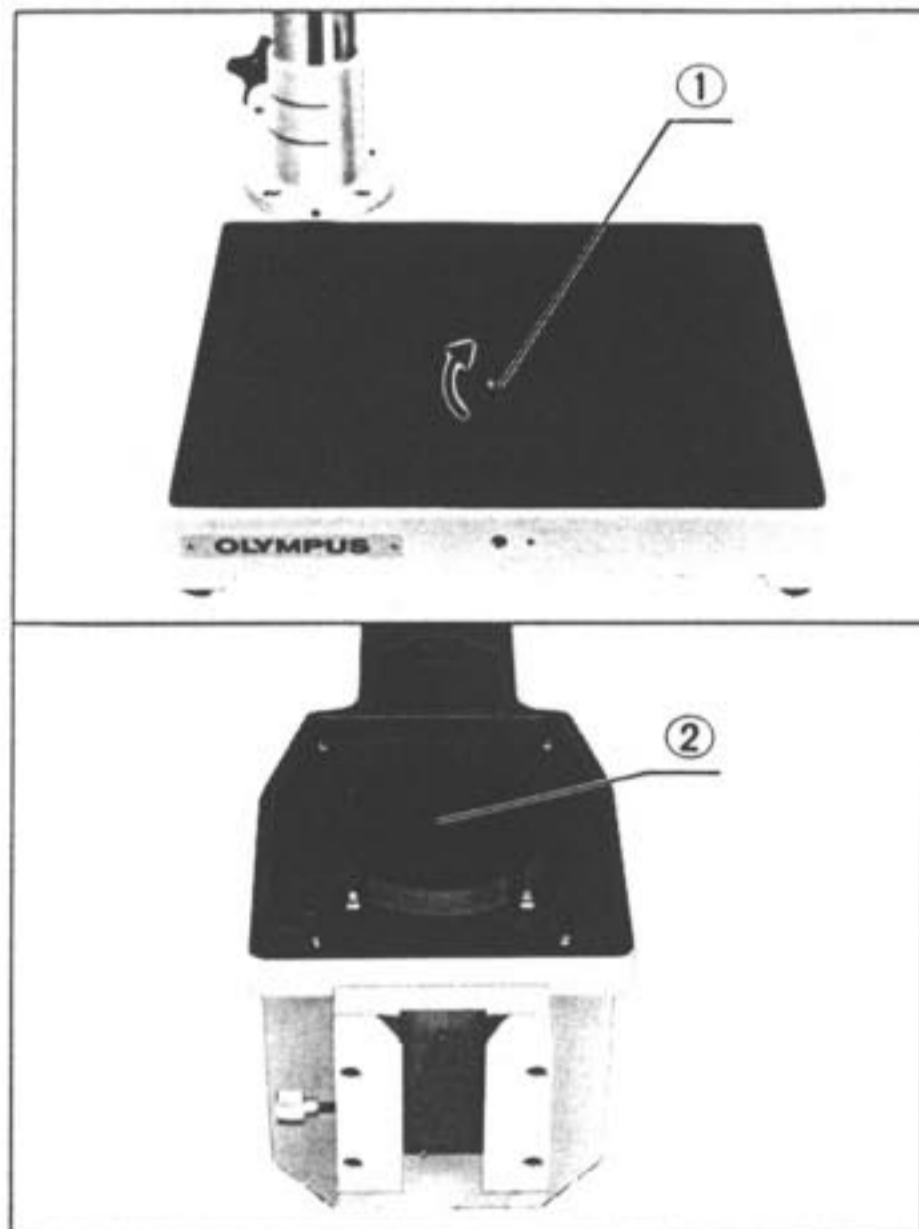

Fig. 6
Loosen the pre-centered pin ① on the base with a coin until it stops. Insert the pin head into the positioning hole ② at the bottom of the illuminator base. This will align the center of the light path between the illuminator and photographic equipment. (Fig. 6)